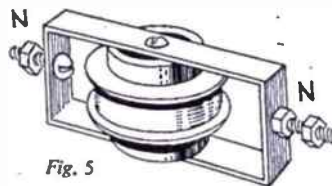

Fig. 5
The other method is to rotate the coil so that its axis is brought out of alignment with the axis of the fixed coil, thus reducing the coupling. Fig. 5 shows one way of doing this. The nuts (N) secure the coil once the final position of the coil is determined.